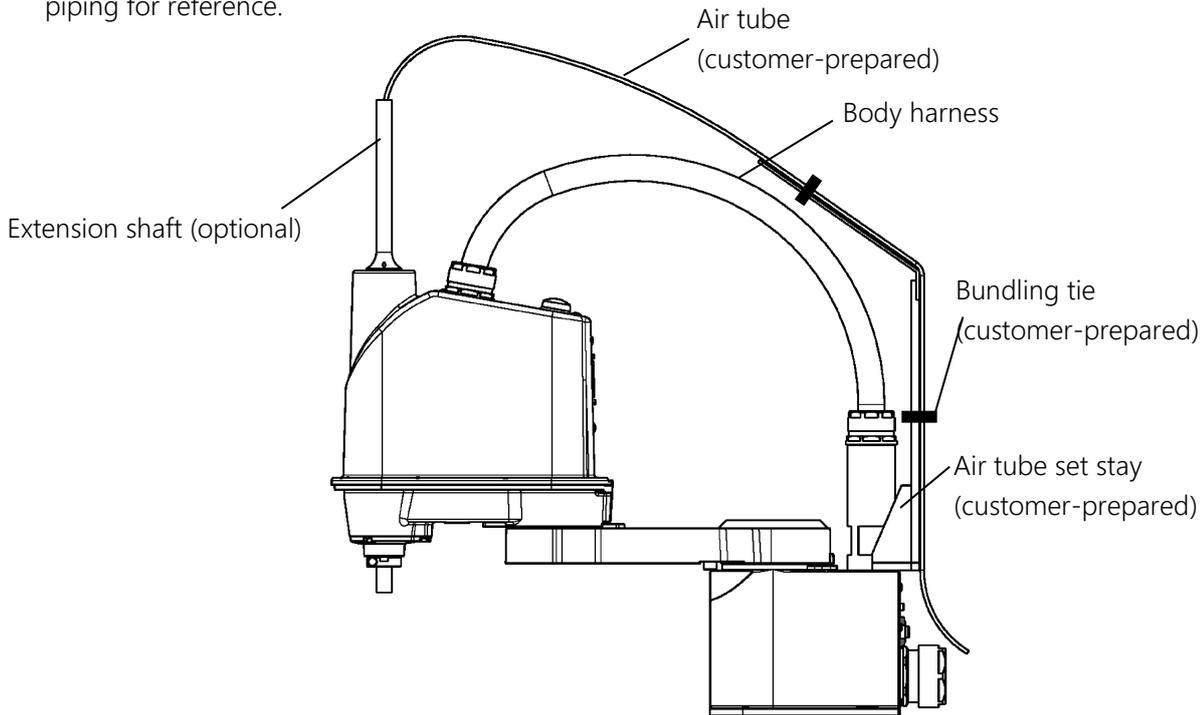

Fig. 4.4 Example of hand air piping and wiring
The hand air piping should be installed by the customer. Fig. 4.4 shows an example of installing hand air piping for reference.
- Fig. 4.4 shows a piping example. Note that the damaged air tube is not under our warranty.